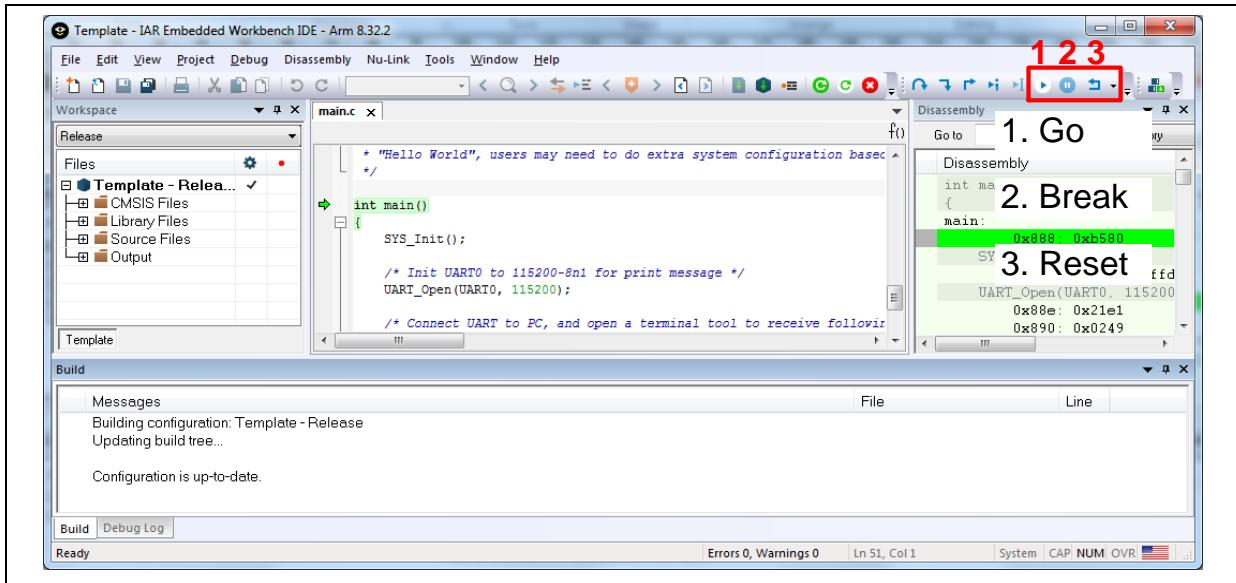

Figure 5-17 IAR EWARM Debug Mode
4. Figure 5-17 shows the debug mode under IAR EWARM. Click “Go” and the debug message will